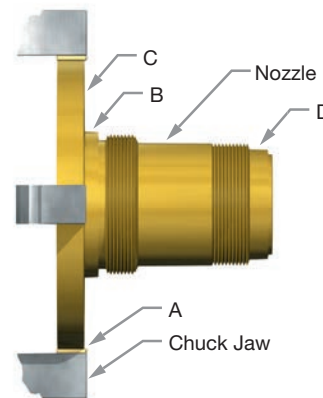

Figure 26: Nozzle Positioned in a Jaw
2. Set-up the lathe and nozzle (2) as follows:
- Grip the nozzle in a four-jaw independent chuck (or collet, if appropriate) using a piece of soft material such as copper or fiber between the jaws and the nozzle (see Figure 26).
- True-up the nozzle so that the surfaces marked B, C, and D run true within .001" (.025 mm) on the total indicator reading (see Figure 26).